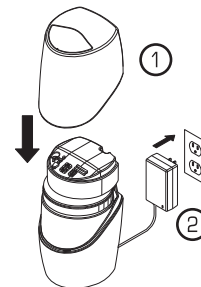

Fig. 49
3. **Place** the Top Shroud onto Base ①. **Plug** the Power Adapter into the wall outlet ② (Fig. 49).